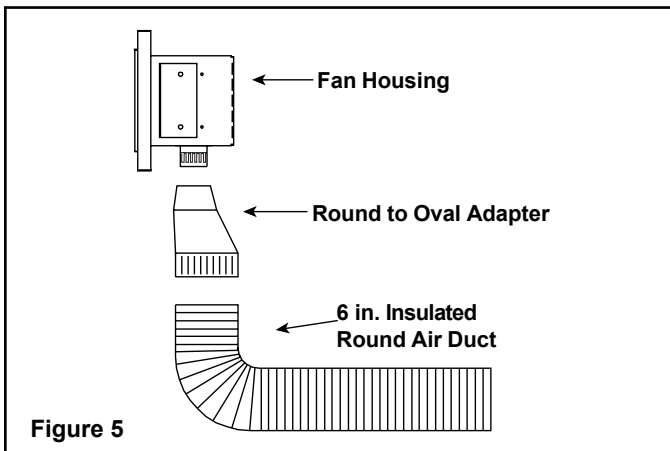

Figure 5
6. **Insulated Round Air Duct:** Run the flexible duct to the fan housing. Attach the round-to-oval adapter to the fan housing with 2 self-tapping sheet metal screws and the air duct to the adapter with the clamp provided. See Figure 5.